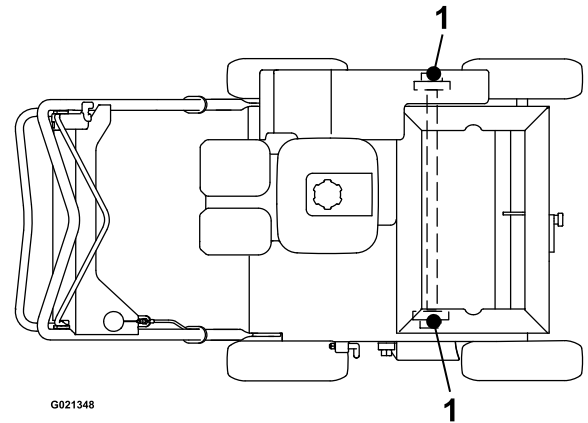

Figure 16
3. Lubricate the fittings (Figure 16) with 1 or 2 pumps of NLGI grade No. 2 multi-purpose grease.